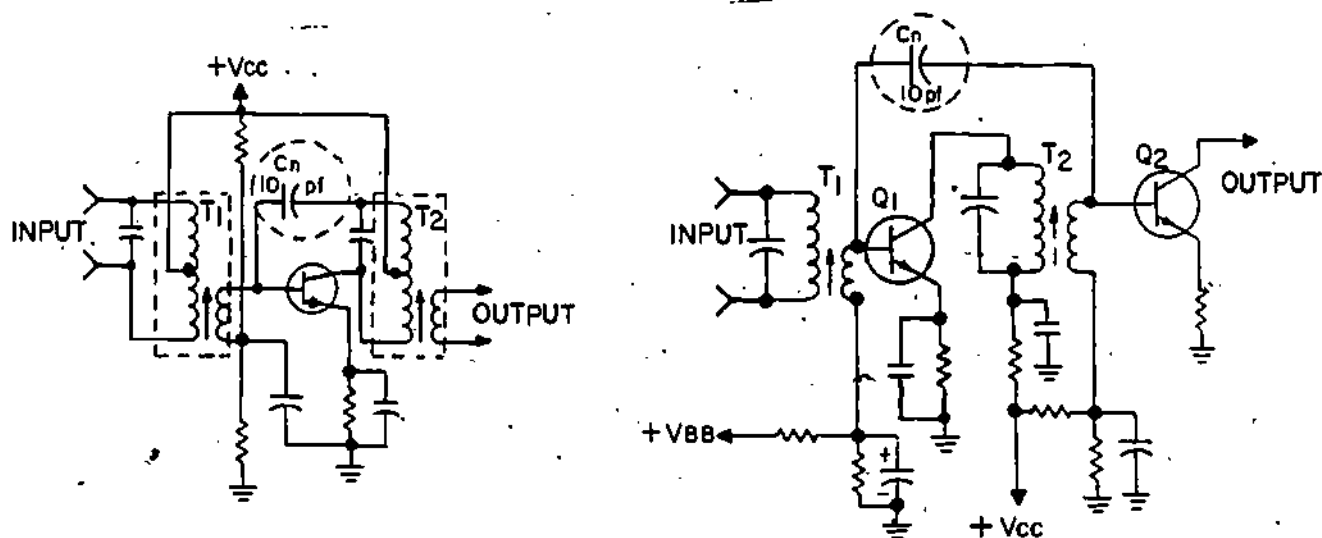

Figure 25
27. We want an RF amplifier to amplify rather than to oscillate. To prevent oscillation, we can supply another feedback circuit which is external to the transistor. If this feedback is exactly equal in voltage and opposite in polarity to the internal feedback, the two feedbacks will cancel each other. No oscillations will occur because we have neutralized the amplifier's tendency to oscillate. The circuits in Figure 25 show two ways an amplifier can be neutralized. The neutralization component is labelled C_n .